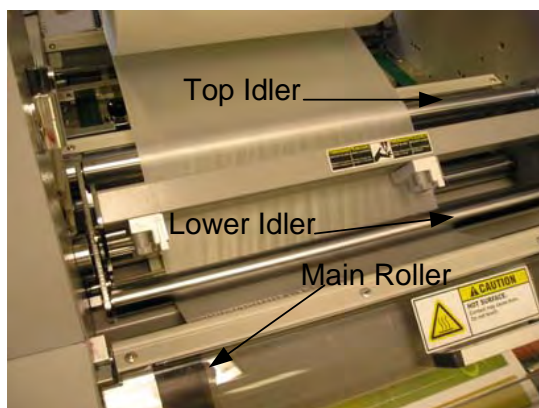

Figure 3
- Guide the film over the **Top Idler Bar**. (Figure 3).
- Continue by webbing the film under the **Lower Idler Bar**. (Figure 3).
- Drape the film over the **Main Heat Roller**. (Figure 3).